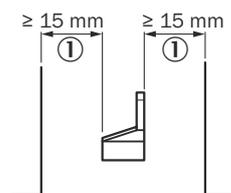
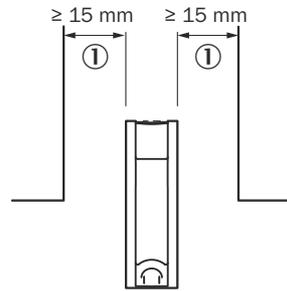

Figure 24: Minimum distance between position magnets and parts made of magnetizable material
Figure 25: Minimum distance between position magnets and parts made of magnetizable material
- ▶ The distance ① between the position magnet and parts made of magnetizable material must be at least 15 mm (see figure 24, page 26 and see figure 25, page 27).